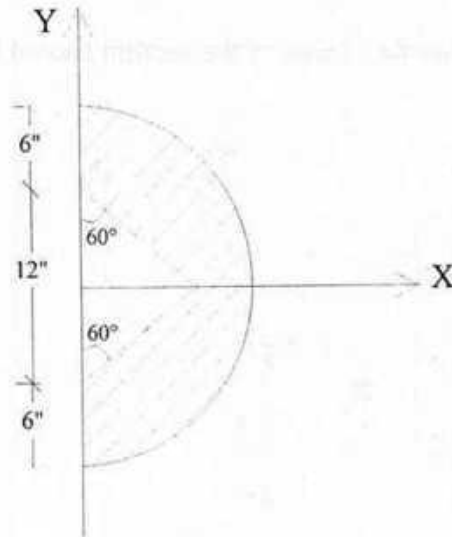

Fig. 7
7. Determine the centroid of the shaded area shown in Fig.7.